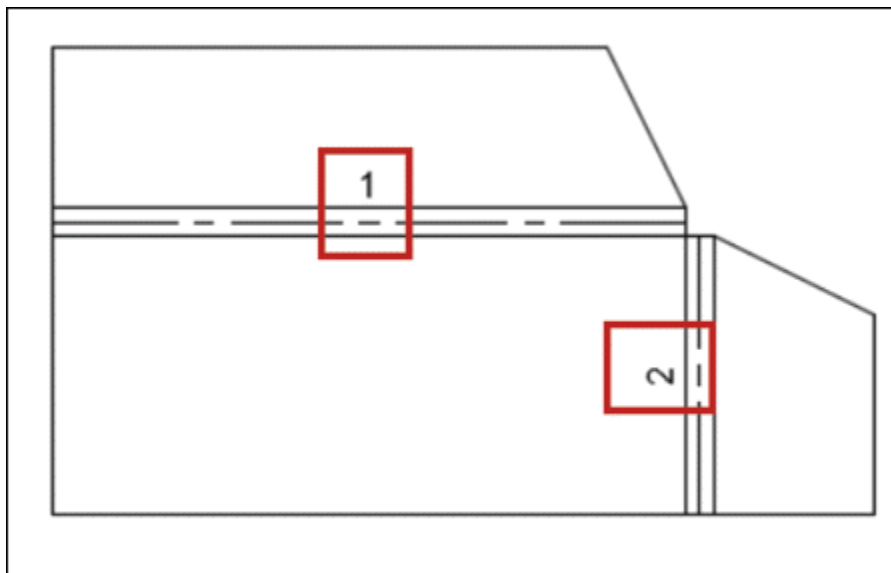

Figure-116. Bend identifier assigned
- Click on the sheet metal bends in drawing one by one. Bend identifiers will be assigned to the bends; refer to Figure-116.